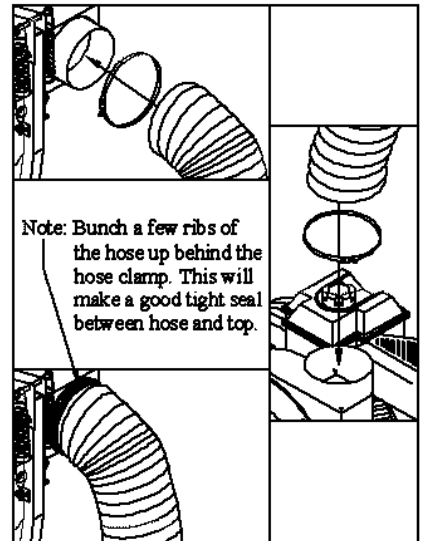

Fig. 6
6. Slip exhaust hose (26) over intake nozzle (24) and secure with 6" band clamp (25). Note: bunch a few ribs up between the band clamp and the molded top. This will achieve a nice airtight fit to the top. **Fig. 6**